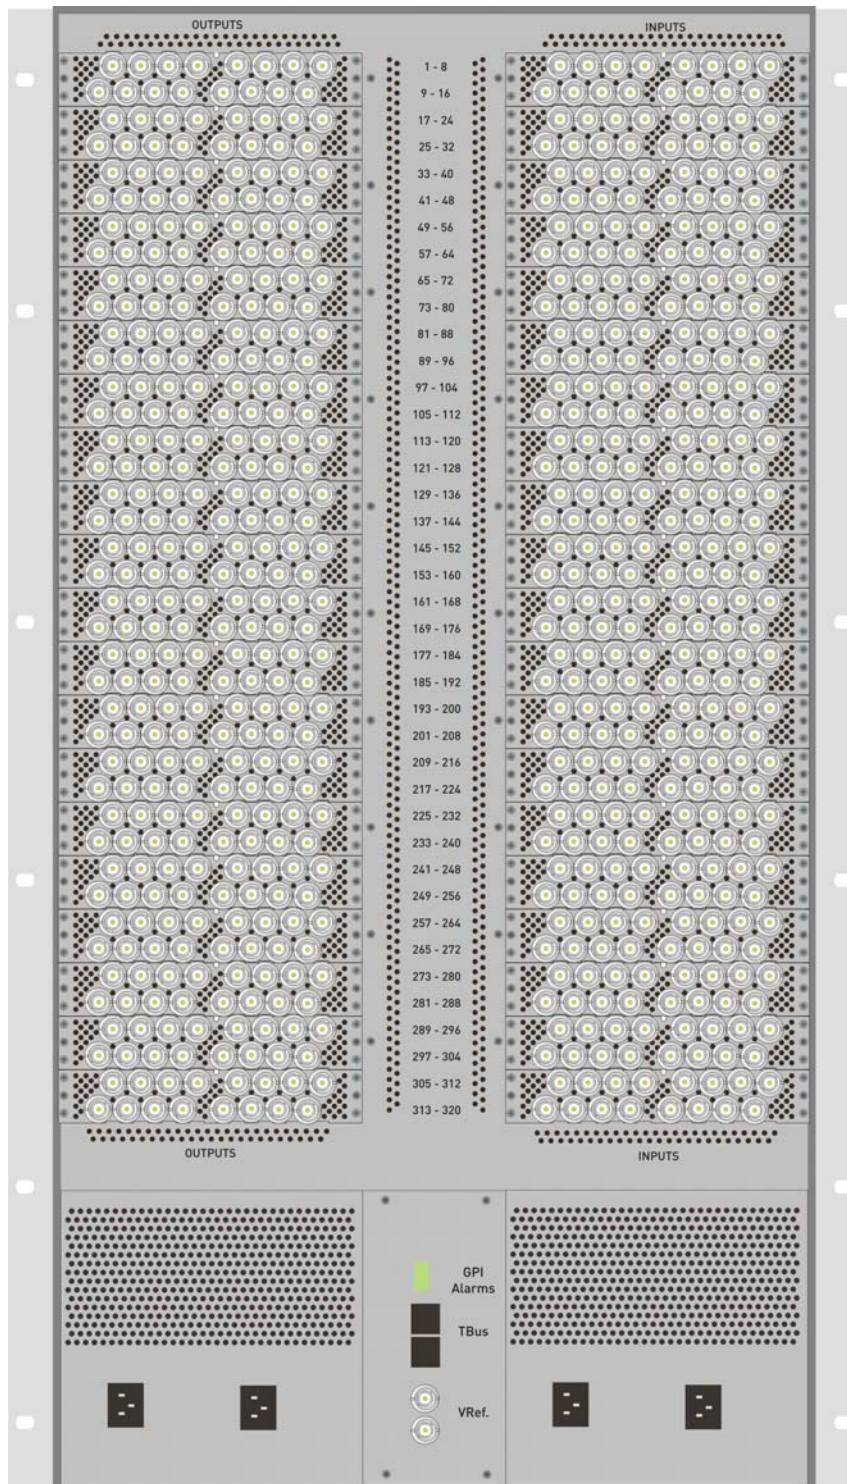

Figure 2.4 Rear panel of the NK-3G320 Routing Switcher
NK-3G320(288)	3G/HD/SD digital video routing switcher, 288 inputs, 288 outputs, expandable in groups of 8 per input card (NK-I3G) and output card (NK-O3G), up to 320 × 320 4 redundant PSUs, single control interface and matrix card Refer to Figure 2.4 .